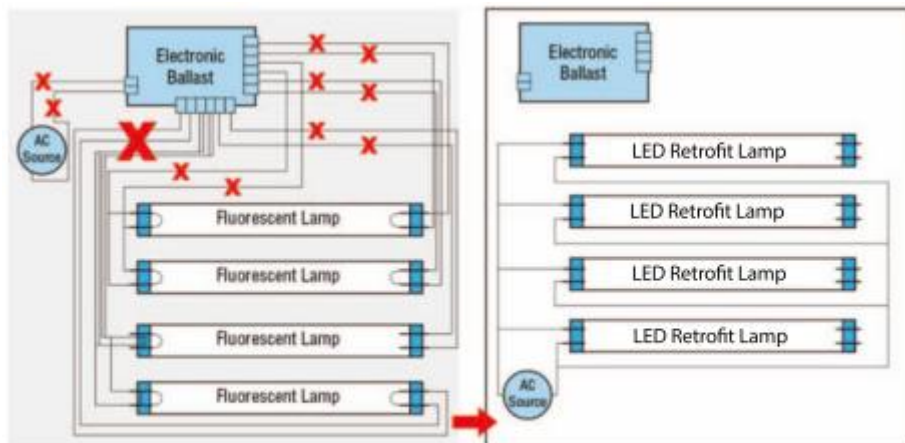

Figure 5. - Retrofit with Three/Four Lamps
4. Rewire the light fitting as shown in the circuit diagram above (Figure 3 to Figure 5);